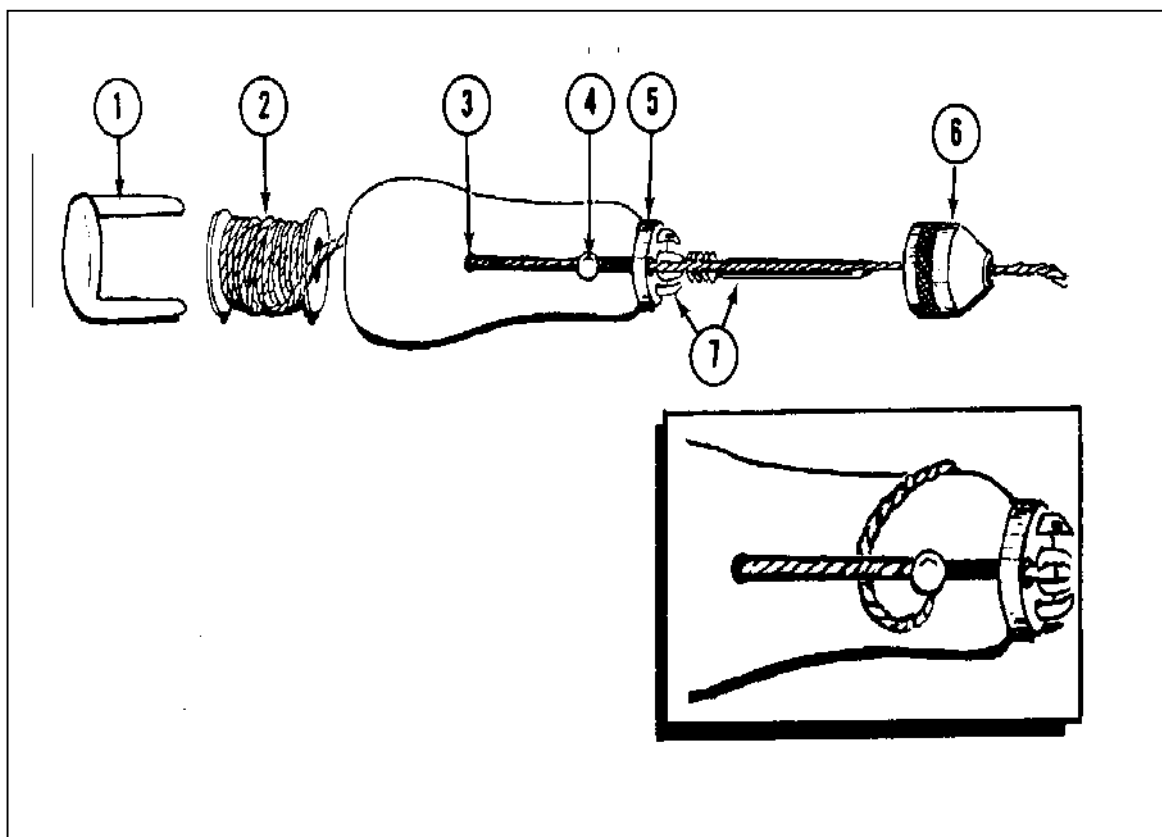

Figure 7-6. Threaded saddler's sewing awl
The saddler's sewing awl (Figure 7-6) is a sewing tool designed to make a lockstitch by hand. It has a bulb-shaped, wooden handle which holds a bobbin and extra needles. The bobbin feeds waxed thread to a needle attached to the tapered end of the handle. The sewing awl is equipped with two straight needles and one curved needle. The straight needles are used to make repairs in flat areas where there is plenty of room to work. The curved needle is used in areas where there is little room in which to work with the awl, such as inside corners. To thread a sewing awl--
- d. Pull the thread down the handle, and wrap it around the tension post one time. Pass the end of the thread under the thread coming out of the hole so that the thread will feed freely. See the inset on Figure 7-6.